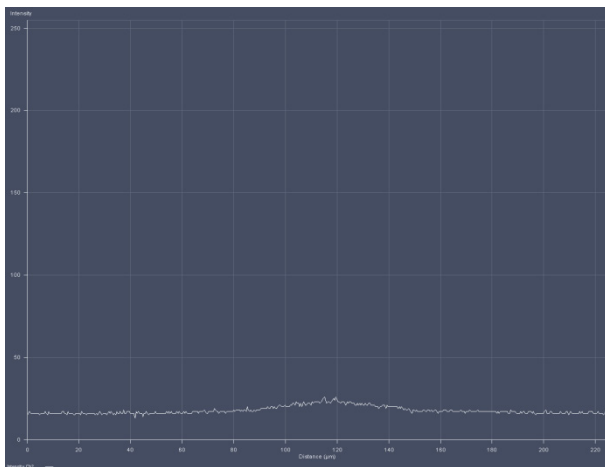

Fig. 309 Selection of Line Scan diagram
- The diagram (Fig. 309) shows a line with a bump, which is the result of reflected light on the optical axis not focused yet on the lower glass surface. You might adjust the line to lower or higher values by altering the gain or laser power.